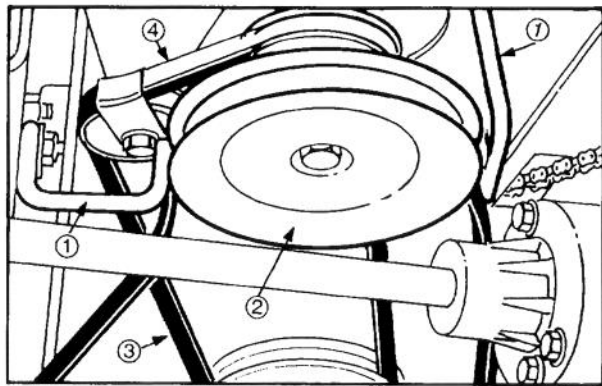

Figure 24
2. Set height-of-cut control to lowest setting and loosen belt guides near engine pulley. Remove belt from engine pulley (Fig. 24).